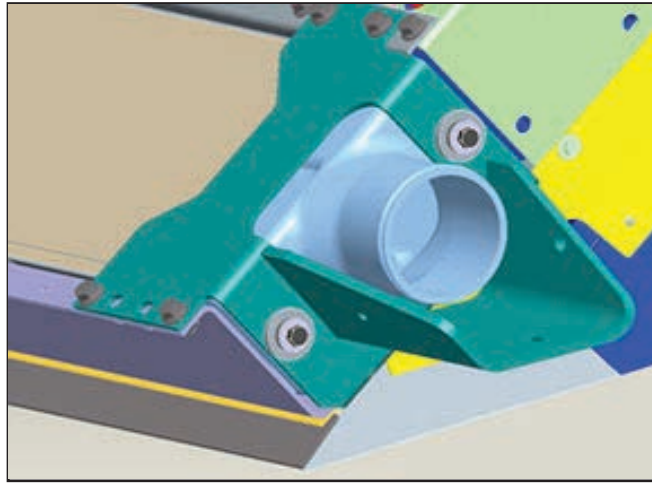

Figure 10 - Lower Supports to Replace
- 1.31. Replace the lower support of the radiator assembly with the new right support N8899180 and left N8899181. See Figure 10.